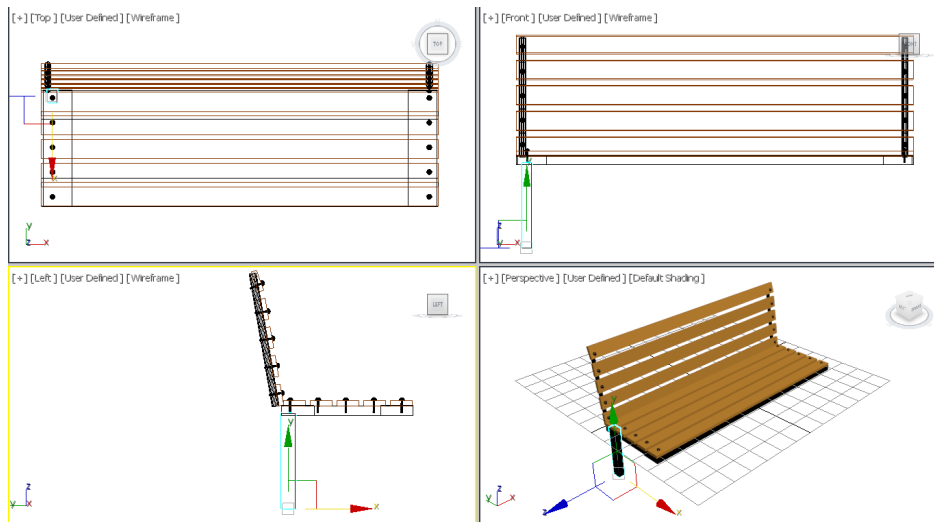

Figure 2-98 Alignment of *leg001* in viewports
- Choose the **Select and Move** tool and align *leg001* with *leg support001* in the viewports, refer to Figure 2-98. You need to adjust the viewport to display all the objects properly using the **Zoom** and **Pan View** tools.